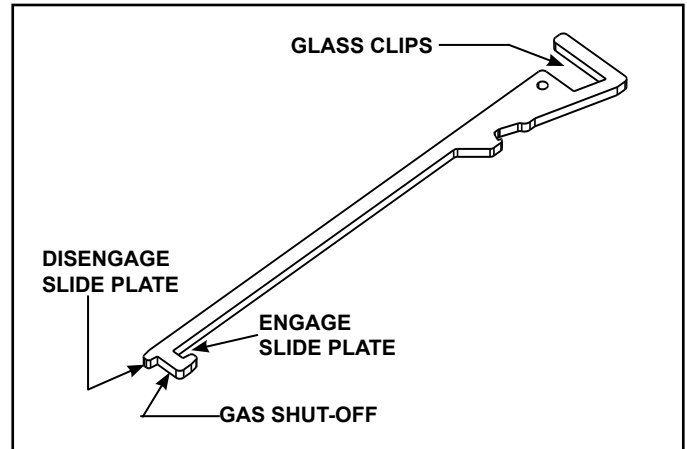

Figure 2.1 Multi-Purpose Tool
- See Figure 2.1 for multi-purpose tool functions and features.
- See Figure 2.1 for multi-purpose tool features /functions.